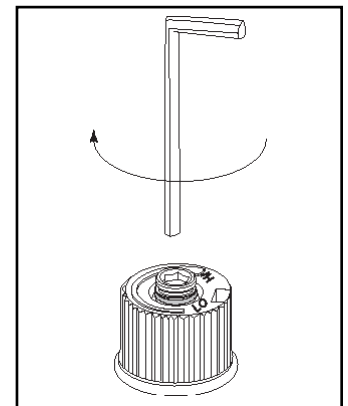

Figure 76
- Using the Allen wrench as shown in Figure 76, rotate the screw clockwise and tighten until snug.